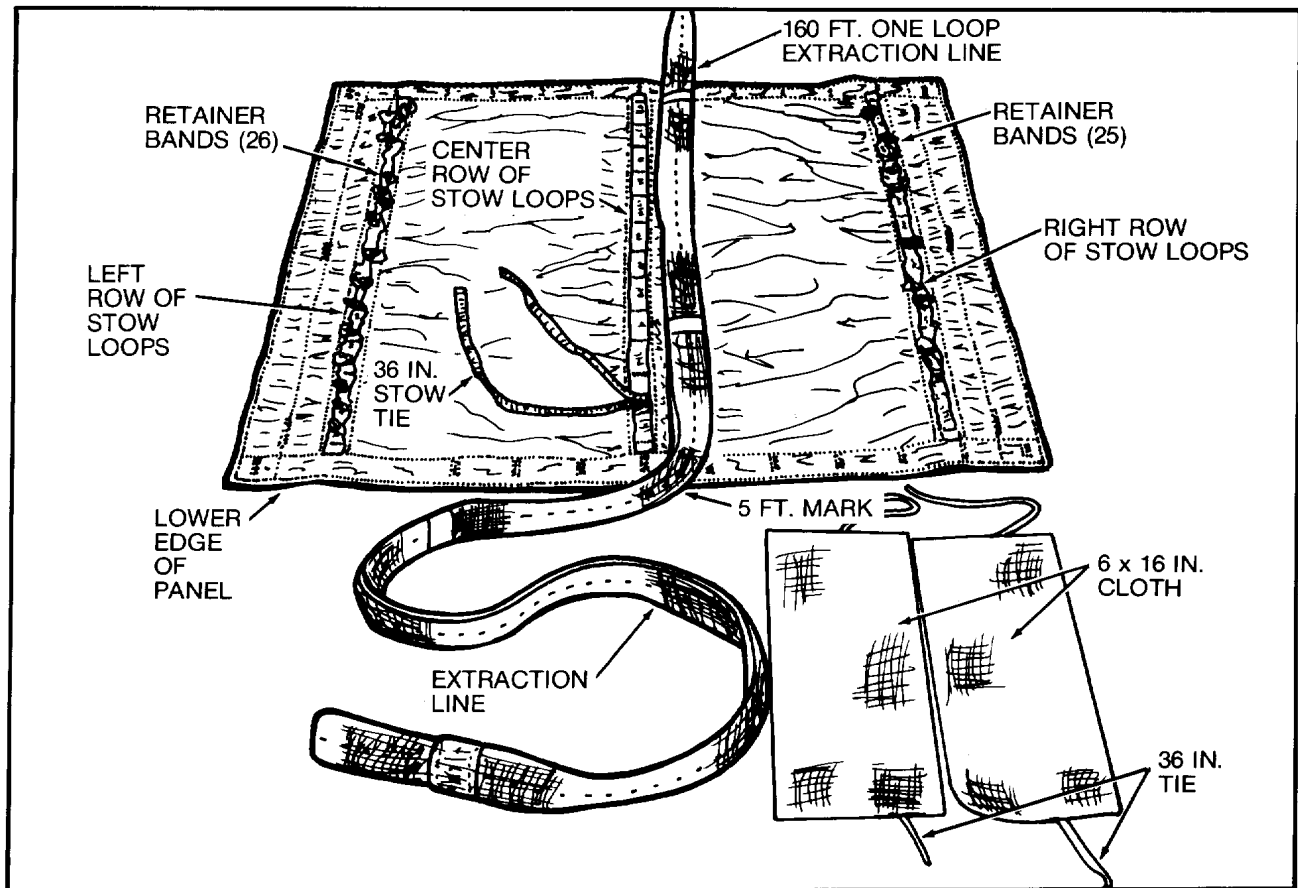

Figure 1. One Panel Layout for Stowing 160 FT One Loop Extraction Line.
- a. Position Extraction Line Panel on pack table or suitable surface with stow facing up and running lengthwise (figure 1).